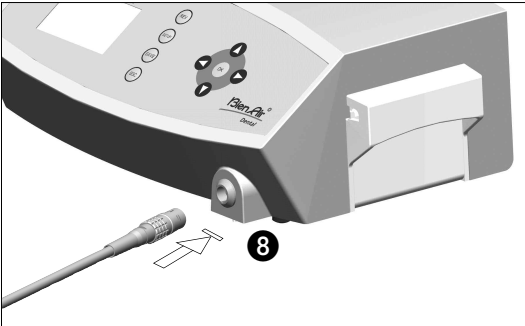

fig. 3
E. Connect the MX CHIROPRO micromotor cable to the motor output, guiding the connector and plug by means of the index pin and red dot on the connector **fig. 3**.